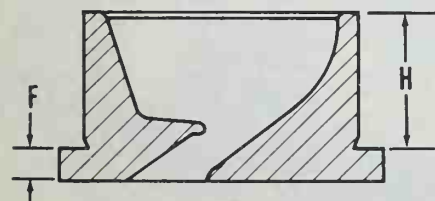

Fig. P1-15—Turbulence chamber flange thickness (F) is 3.975-4.025 mm while height (H) is 18.50-18.80 mm.
Turbulence chamber standout above head surface should be 0.0-0.03 mm. To remove turbulence chamber, insert a malleable punch through injector hole and drive out chamber. Flange thickness (F—Fig. P1-15) should be 3.975-4.025 mm while height of chamber (H) should be 18.50-18.80 mm. Clearance between bottom of bore in head and chamber should be 0.1-0.6 mm. Oversize turbulence chambers are available. Be sure retaining ball is installed in groove when installing turbulence chamber.